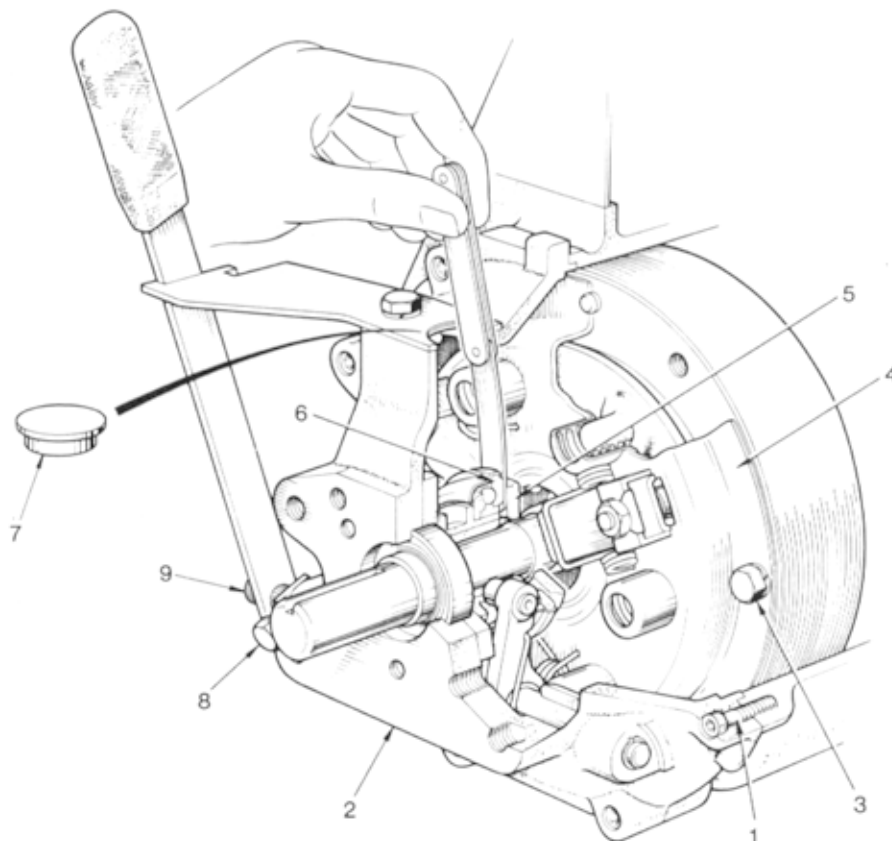

Figure 6.6 Clutch Single Plate : Cutaway View
## CLUTCH SINGLE PLATE (FIGURE 6.6)
**6.21** Remove the plug (7) from the top of the clutch housing and check the clearance between the thrust plate (5) and the thrust bearing (6) using a feeler gauge as shown in Figure 6.6. The clearance should be between 2.5 to 2.8 mm (0.10 to 0.15 in). If necessary the clearance can be adjusted by loosening the operating lever pinch bolt (8) and with the lever in the engaged position as shown alter the position of the shaft (9) relative to the operating lever by turning the shaft against the spring pressure until the feeler gauge is just gripped between the thrust bearing and the thrust plate. Tighten the pinch bolt. Check the clearance and fit the plug.